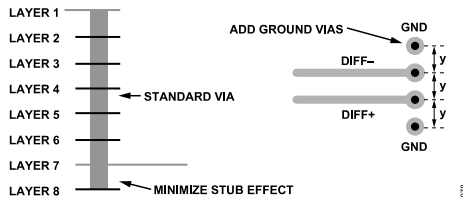

Figure 78. Minimizing Stub Effect and Adding Ground Vias for Differential Stripline Traces
- ▶ If using standard vias, use the maximum via length to minimize the stub size. For example, on an 8-layer board, use Layer 7 for the stripline pair (see Figure 78).
- ▶ For each via pair, place a pair of ground vias adjacent to them to minimize the impedance discontinuity (see Figure 78).